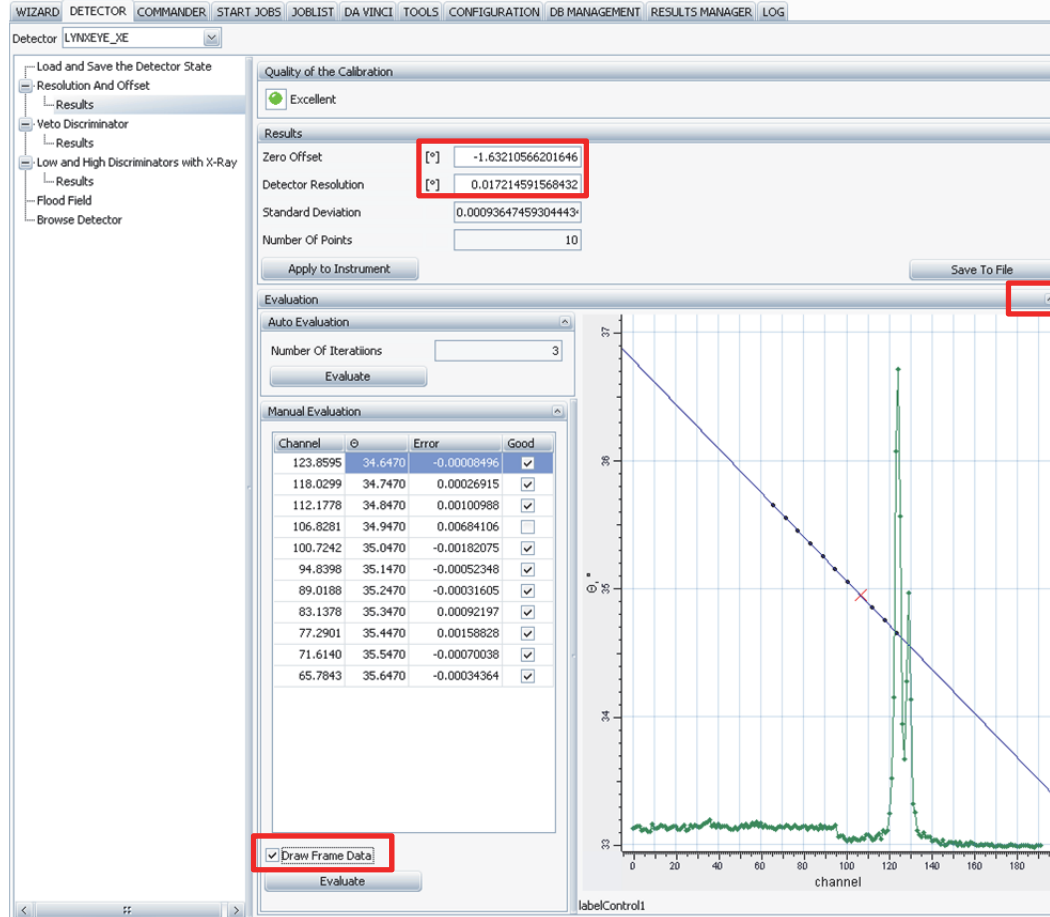

Figure 6.29: Result of the 'Resolution' and 'Offset' determination
- As 'Results' you get new values for 'Zero Offset' and 'Resolution'. Quality should at least 'Satisfying'. You must double click on 'Evaluation' to open it and check the 'Draw Data Frame' box to display the scans, see Figure 6.29.